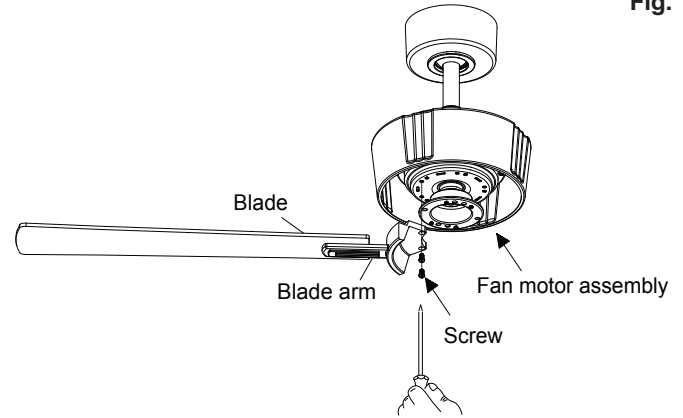

Fig. 17
**Step 1.** Fasten the blade assembly to the fan motor assembly by tightening the blade arm screw onto the fan motor assembly. (Fig. 17)